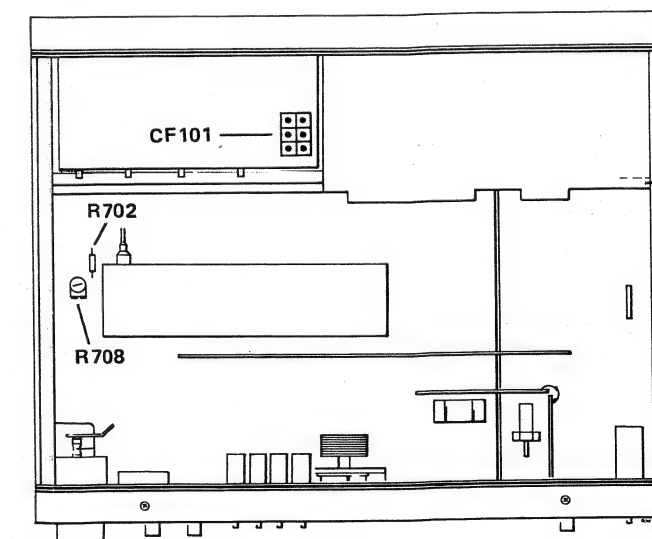

Figure 37 Test points
- Adjust CF101 (Front End, figure 37) for minimum distortion (on the distortion meter) and at the same time maximum d.c.-level and symmetrical sinewave on the oscilloscope (see figure 36).
- Screw R708 fully counterclockwise (see figure 37).
- Connect voltmeter to R702 (see figure 37).